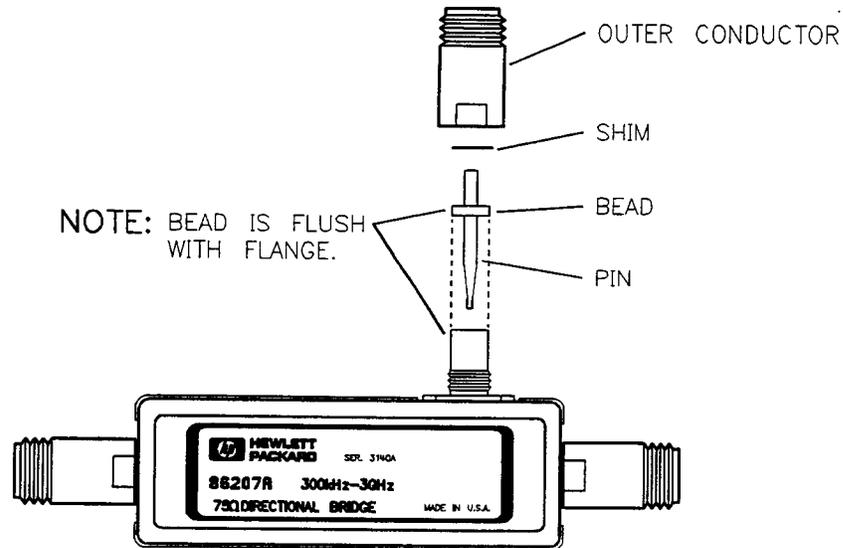

Figure 5-4. Center Pin and Bead Placement in the Connector Assembly
4. Insert the new pin and bead assembly by positioning the center pin over the connector flange and twisting the pin as you slowly, and carefully, push it down into the flange. The pin and bead assembly should be flush with the flange as shown in Figure 5-4.
If the pin depth is out of tolerance (>0.207 in), insert a shim in the connector assembly by removing the outer conductor and placing a shim as shown in Figure 5-4.